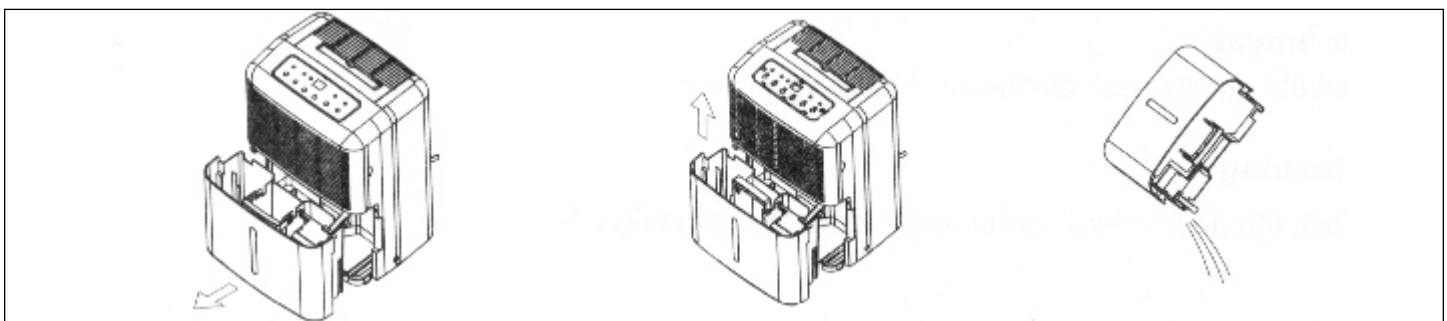

Figure 5: Emptying the Water Tank
2. Water Bucket is full ('P2') or is not installed correctly	Remove Water Tank (as shown in Figure 5 below) and empty Water Tank. 'P2' will display in Control Panel. Be sure Water Tank has been replaced in the unit correctly or unit will not operate..